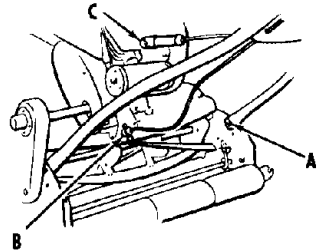

Fig. 1
3. Remove handle from separate carton and attach to handle support pins which are visible at each side and to the rear of the engine support plate (fig. 1-"A"). Secure with cotter pins.
4. Insert throttle - clutch rod into socket on mower (fig. 1-"B"). Secure with spring pin.
5. Attach yoke of handle support rod to clip at rear of the engine cylinder head with clevis pin and secure with cotter pin (fig. 1-"C").